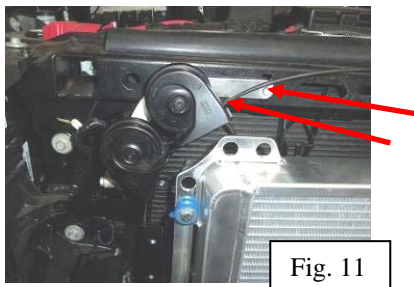

Fig. 11
11. Install the horn bracket using the existing bolt. Using one of the supplied zip ties, attach the hood release cable to the horn relocation bracket (Fig. 11).